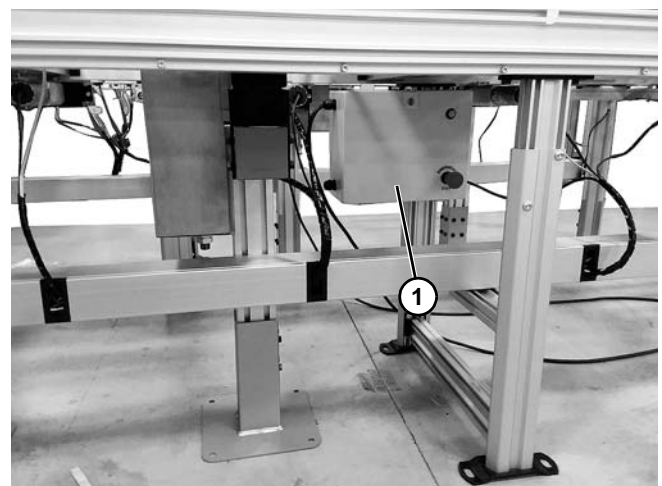

Figure 9
10. Determine location for DC power supply (**Figure 9, item 1**).